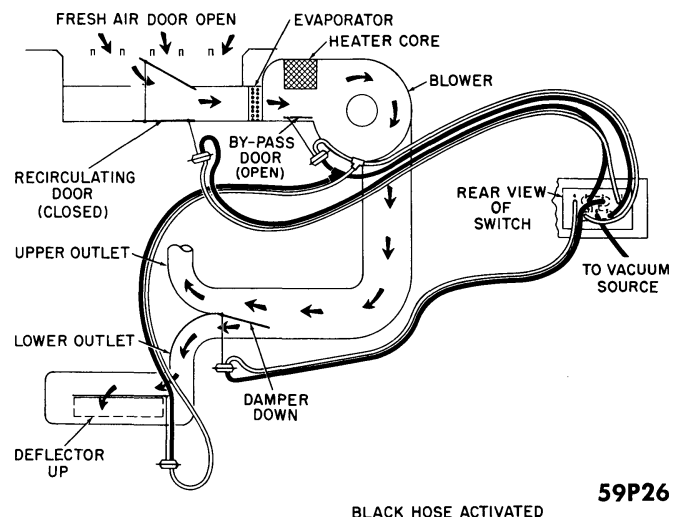

Figure 8—Fresh cool position
When the "FRESH COOL" (FC) button is depressed, the fresh air door opens and the recirculating door closes. The balance of the doors and the damper are in the same positions as for the "OFF" and (MC) positions, Figure 8. The difference being determined by the change in the pressures being applied to the opposite side of the fresh air, recirculating door actuator.